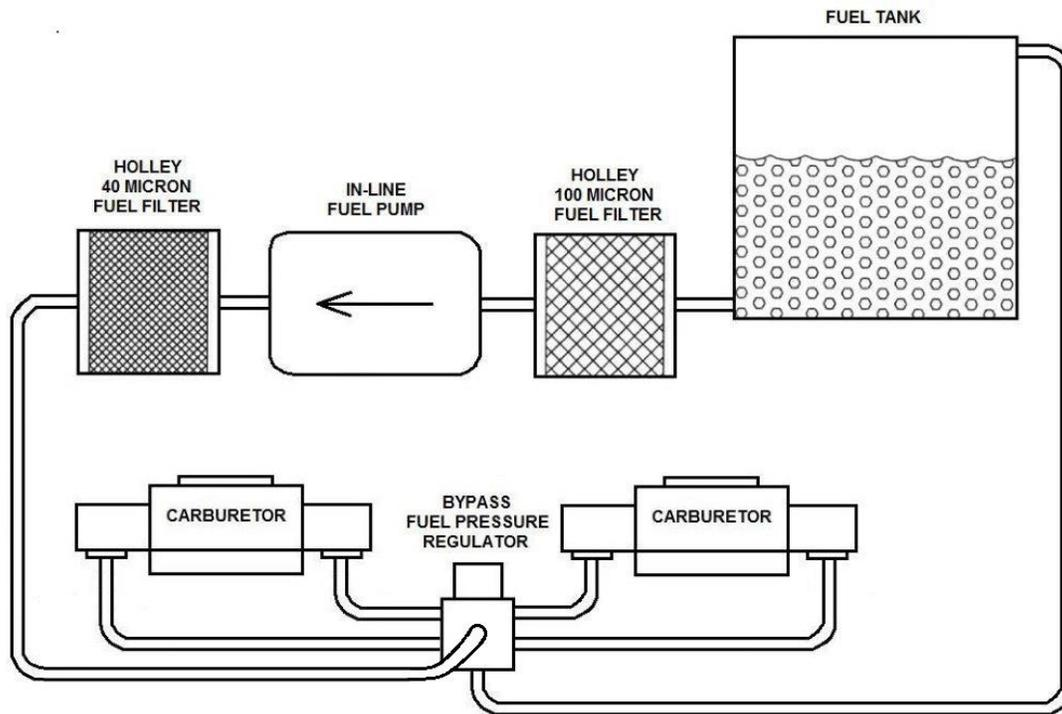

Figure 2a (Carburetor)
- Connect the fuel line from the outlet of the pump to the inlet of the post fuel filter and then from the fuel filter to the regulator (**Figures 2a & 2b**). All fuel line connections must be leakproof.